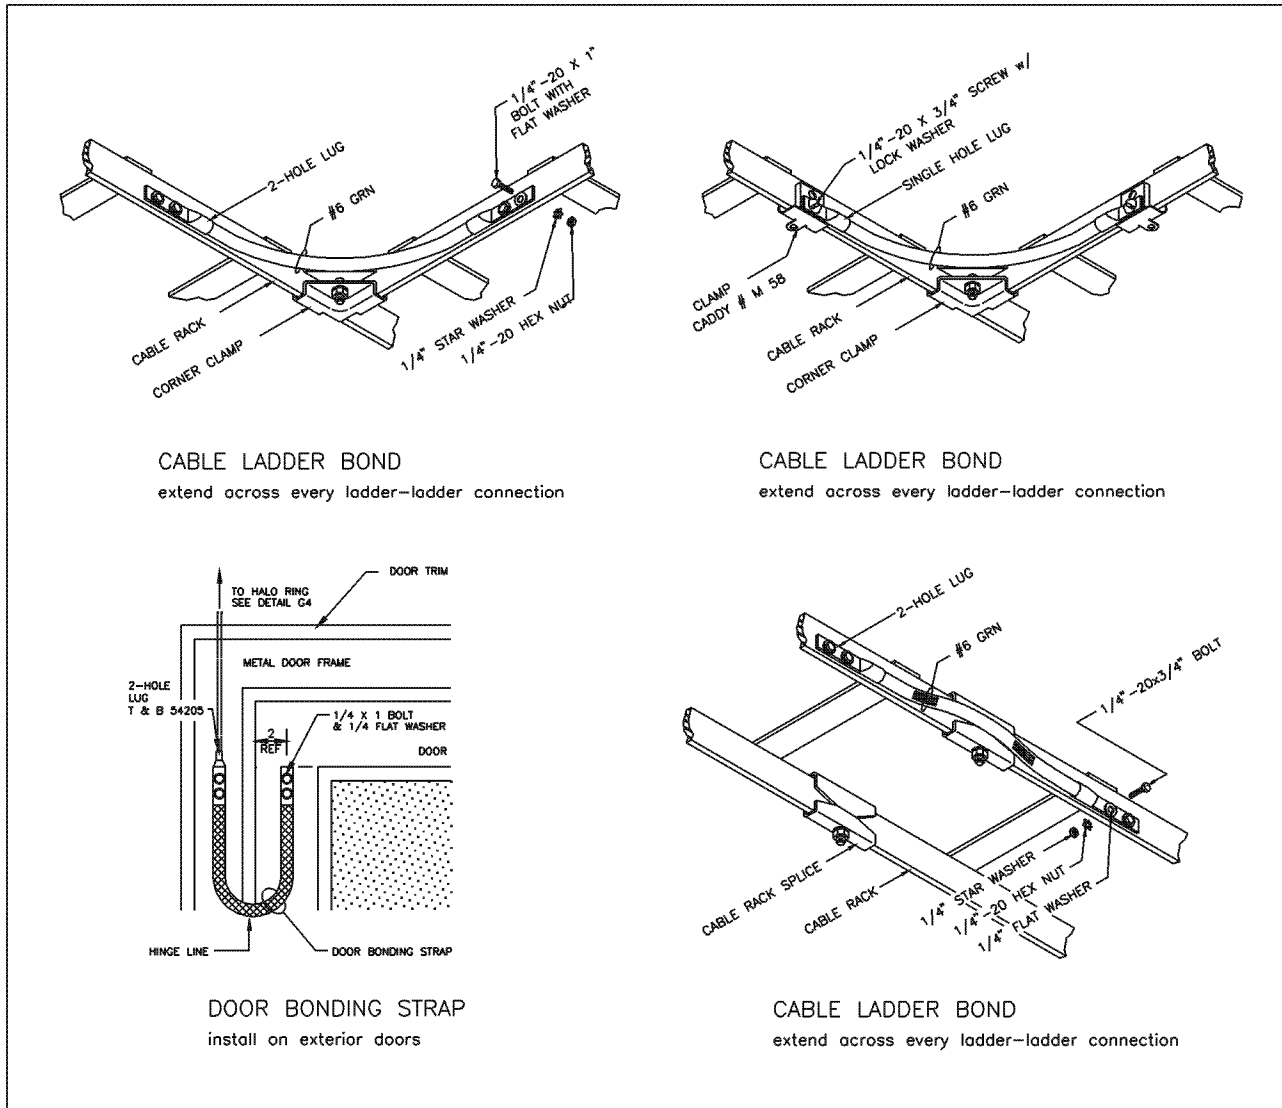

Figure 4 - Bonding Cable Trays and Metal Doors
4. Cable trays, ladders, and metal doors shall be bonded to the internal ground ring as illustrated in Figure 4.